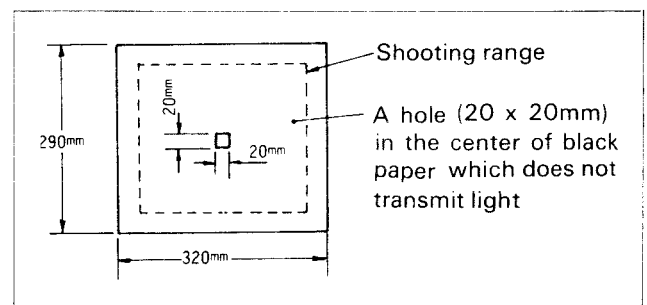

Fig. 4
- 7) Shoot the chart as shown in Fig. 4.